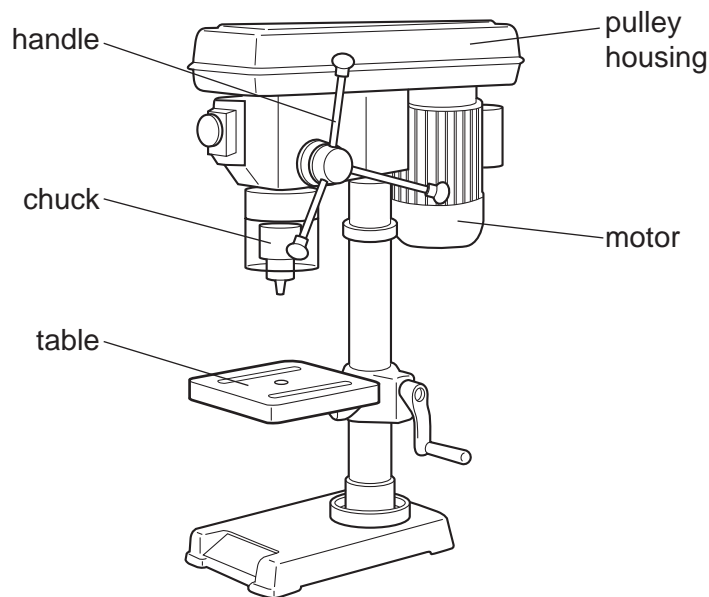

Fig. 6
- 5 Fig. 6 shows a drilling machine.